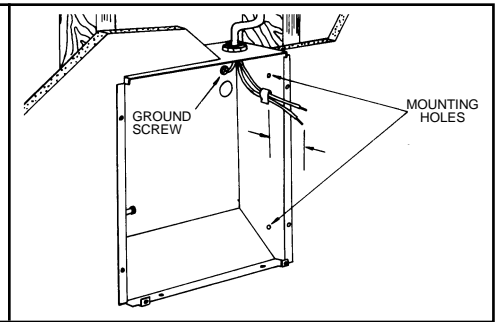

FIG. 5
- Install housing in 11 1/8" W x 14 3/8" H space framed by 2" x 4" headers and wall stud. Observe "top" notation on label affixed to inside of housing. Before nailing or screwing housing to stud and header, determine thickness of wall paneling or drywall. Flanges of housing must be spaced away from wall studs equal to thickness of paneling or drywall. Printed tape with standard thicknesses indicated are provided at housing corners. Nail or screw housing to 2" x 4" stud and header through holes shown in Fig. 5.
- Run service to housing and connect to desired knockout with approved connector. Leave 8" of cable extending beyond connector for connection to heater assembly. Strip outer jacket from cable back to connector. Connect ground wire under ground screw. Run cable leads under cable clamp. Cut leads 2" beyond clamp and strip wires for connection to heater. (See Fig. 5)